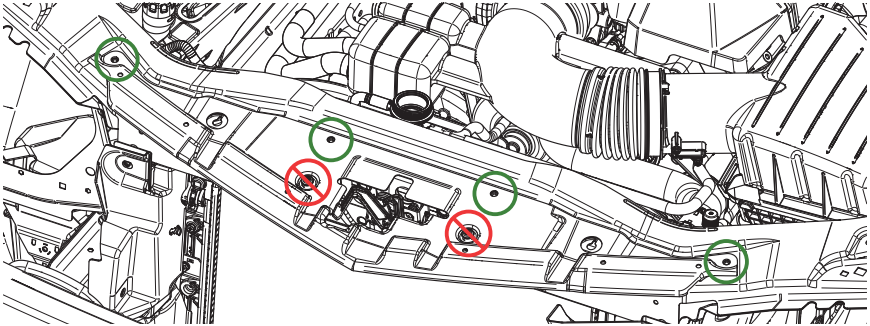

Figure 5 - Removing the Black Fascia Cover
11. Use a 10 mm tool to remove the four screws securing the black fascia cover to the front of the car, circled **green** in Figure 5.